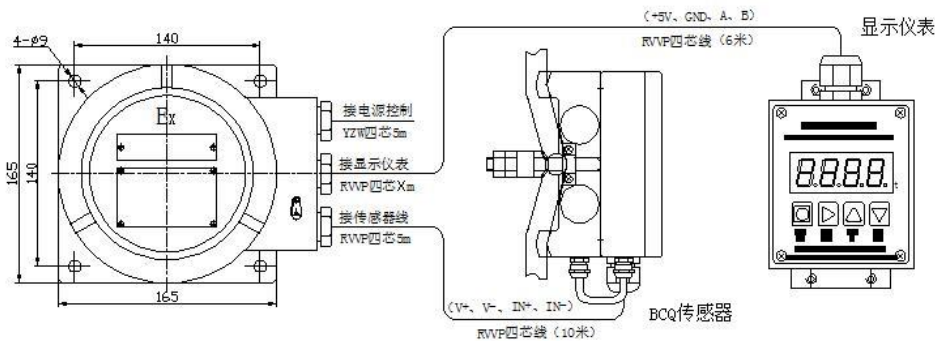
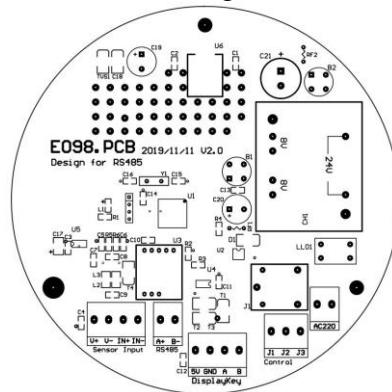

Fig.2
Fig.3
4. The general connection drawing and Sizes are shown in Fig.2, the interior of the main control instrument is shown in Fig.3, the appearance of the indicator is shown in Fig.4.